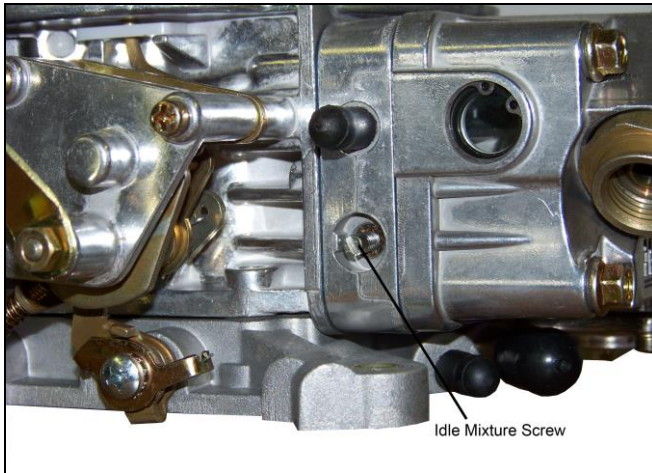

Figure 12
2. Adjust each idle mixture screw (**Figures 12 & 13**) 1/8 turn at a time, alternating between each screw. Turn them equally, until you achieve the highest possible vacuum reading without adjusting the curb idle speed screw. Turn screws in to decrease the idle fuel mixture. Turn them out to increase the idle fuel mixture.